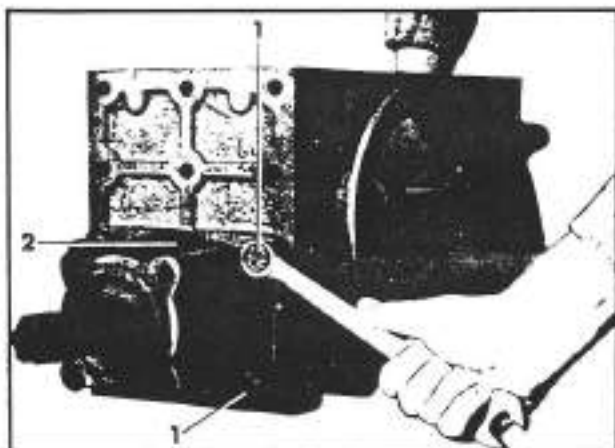

Fig. 3-46. Removal of the power take-off reduction gearbox
- a. Take out the 4 bolts (1; fig. 3-46) of the box of the power take-off reduction gearbox (2; fig. 3-46). Remove the gearbox.